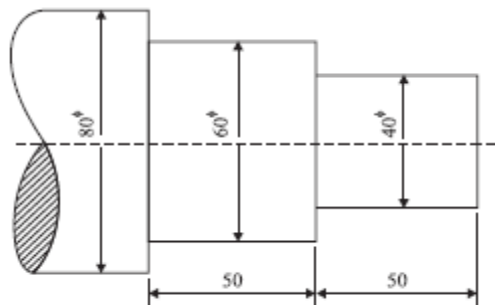

Fig. 5.22
- 1 Calculate the machining time to turn the dimensions shown in Fig. 5.22. Starting from a m.s. bar of ϕ 80 mm. The cutting speed with HSS tool is 60 meters per minute and feed is 0.70 mm/rev., depth of cut is 2.5 mm per pass. (16) BT3